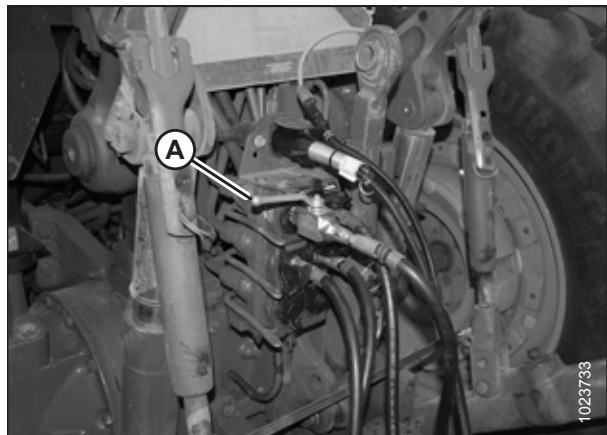
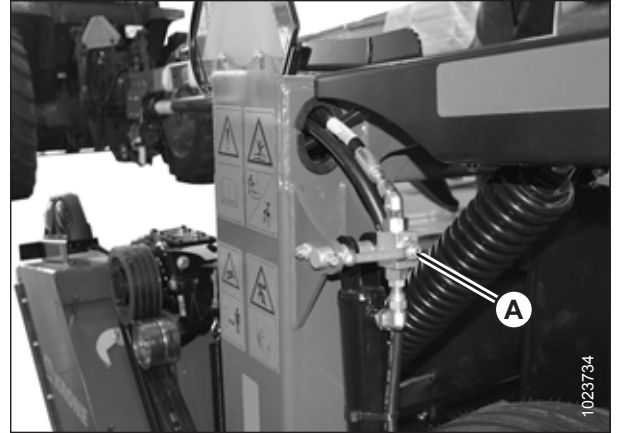

Figure 3.85: Steering Lock-Out Valve
Figure 3.86: Lift Cylinder Lock-Out Valve
10. Close the steering lock-out valve and the two lift cylinder lock-out valves by turning the handles to the closed position. For instructions, refer to Figure 3.85, page 78 and Figure 3.86, page 79.